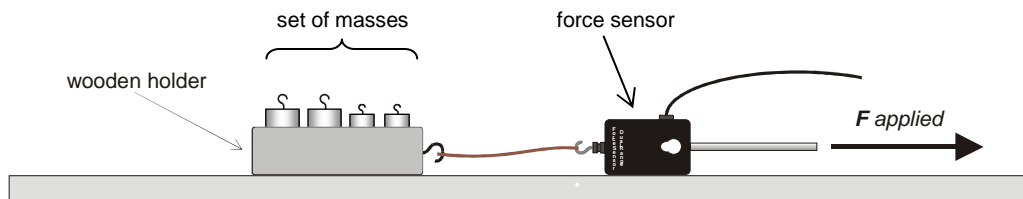

Figure 2 – A wooden block + hooked mass is pulled with the force sensor.
- 4) Gently pull the force sensor with a horizontal force F as shown in Figure 2. Increase F slowly and steadily until the wooden holder begins to slide. At this point, you may have to decrease F so that the holder maintains a uniform velocity.